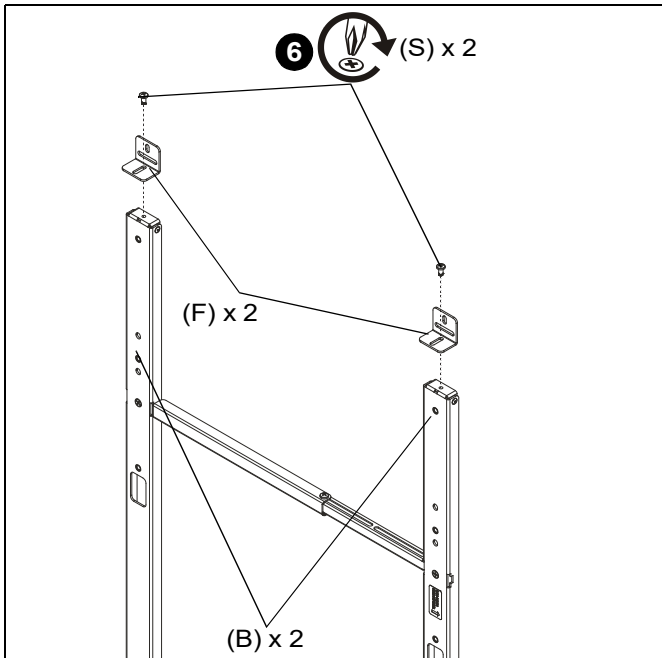

Figure 3
6. Use two 1/4-20 x 1/2" button head cap screws (S) to secure two wall brackets (F) to top uprights (B). (See Figure 3)